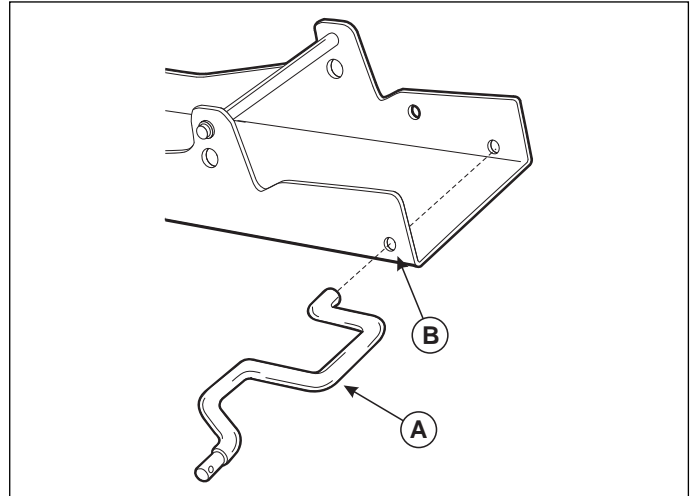

Figure 6. Bell Crank Installation
2. Install the bell crank (A, Figure 6) through the front holes (B) of the hitch assembly.